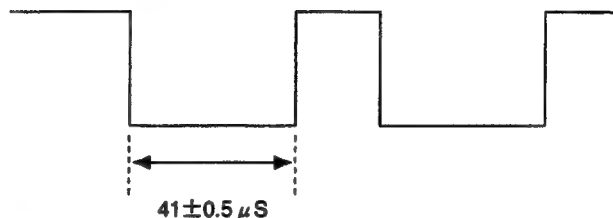

Fig.5-6
- 5) Connect the probe of an oscilloscope to IC503 ⑦ PIN. Adjust H DELAY so that the output waveform will be as shown in Fig.5-6.